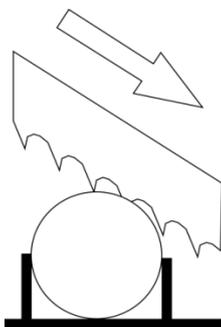

Figure 8-10: Blade Cutting Direction
- Assemble the new blade by placing it first between the pads and then on the race of the flywheels, paying particular attention to the cutting direction of the teeth (Fig 8-10).